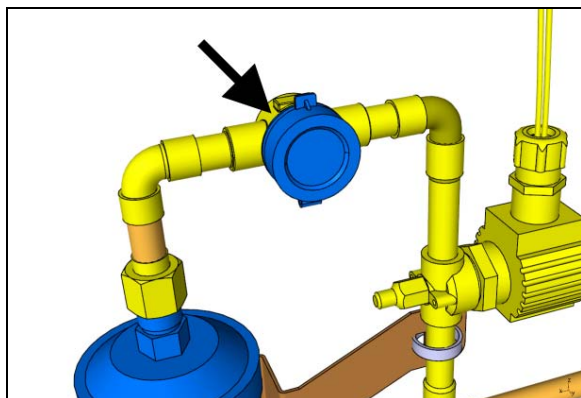

FIGURE 23: MOISTURE INDICATOR SIGHT GLASS
- 2- With the AC on for at least 10 minutes, the moisture indicator sight glass (FIGURE 23) should be clear, not milky, without bubbles in the stream of refrigerant. Bubbles in the moisture indicator sight glass are sign of refrigerant low charge. The filter-dryer nearby should be near constant temperature, less than 5°F differential between inlet and outlet. A partially blocked filter will make some flash gas and give a "milky" sight glass.